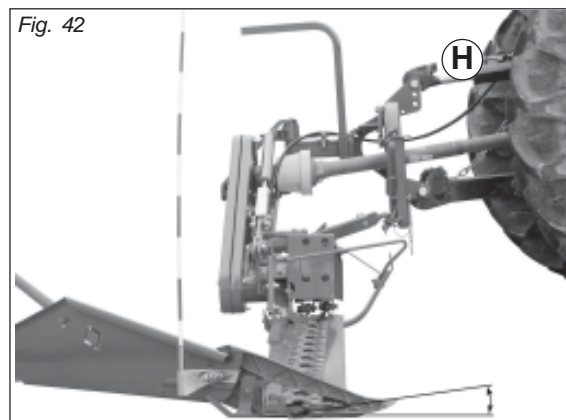

Fig. 42
- Adjust inclination of the cutting arm teeth using tie rod (H, Fig. 42).